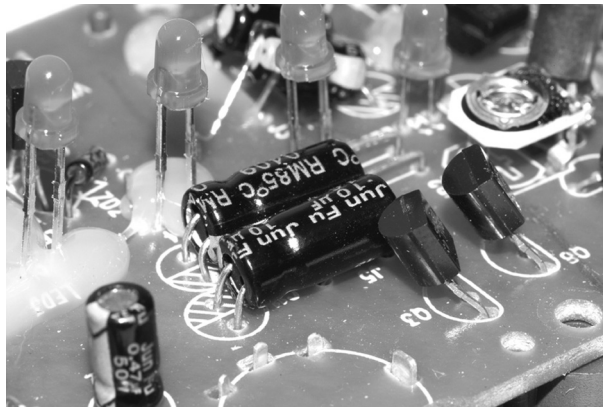

Fig. 21
- (ii) Fig. 21 shows two radial capacitors on the circuit board, bent to a horizontal position.